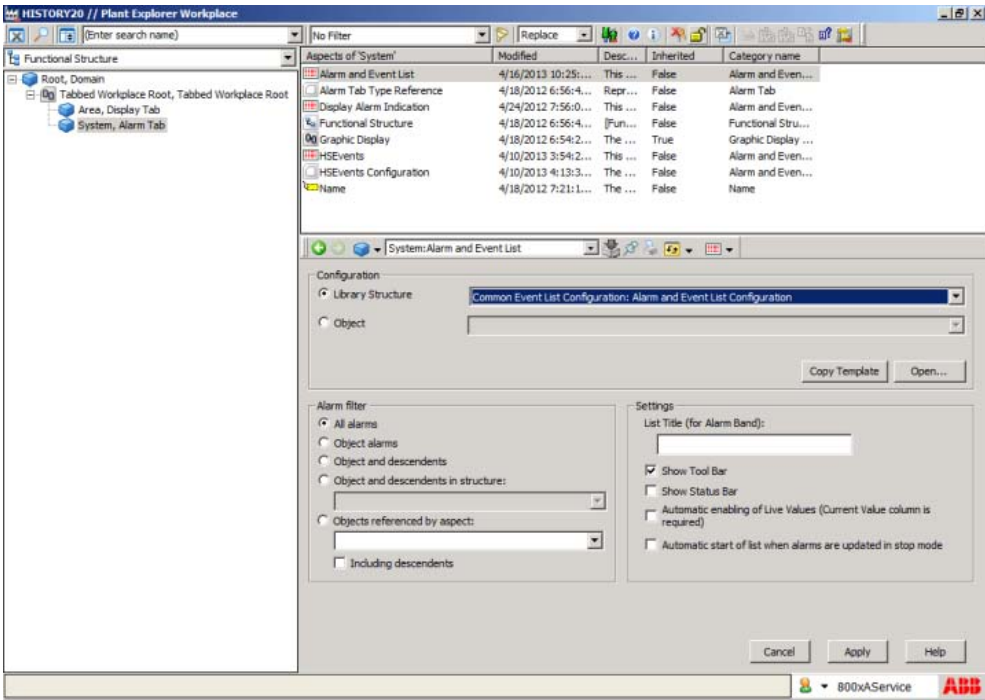

Figure 237. Alarm and Event List aspect - Config View
3. Under **Configuration** area, select **Common Event List Configuration: Alarm and Event List Configuration** from the drop-down list as shown in Figure 237.